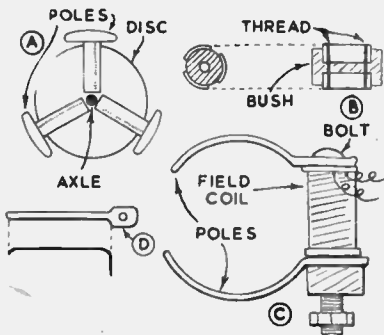

Fig. 1—How the parts are made
The armature has three iron poles spaced at 120 degree intervals round an axle and this part may be made up as shown at (A) in Fig. 1. Each of the poles is a small iron bolt (which may be obtained from an ironmonger's) with the shank sawn off. Dimensions can naturally vary considerably, but it is suggested each pole be $\frac{3}{4}$ in. long. A disc of scrap wood about $1\frac{1}{2}$ ins. in diameter is also cut.
The three poles should now be arranged as shown in Fig. 1, and may be secured to the disc with staples. Also have the axle in position projecting through a hole in the disc and support the whole on blocks so that the axle is vertical.